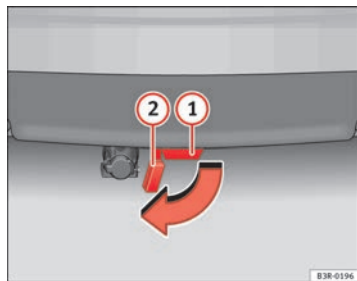

Fig. 154 Rear bumper:
- Remove the cover piece ② ⇒ fig. 154 on the mounting fixture ① below the bumper as far as it will go. The cover piece is held automatically in the open position.